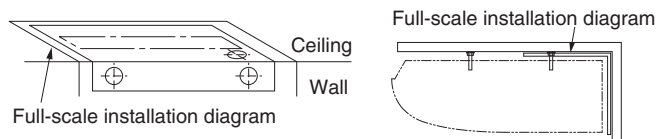

Fig. 3-10
- (2) If the full-scale installation diagram is bent at right angle to the ceiling and wall, the locations of the inlet for indoor tubing and wiring are chosen and the locations of each suspension bolt can also be chosen. Take a pencil and mark the drill holes (Fig. 3-10).